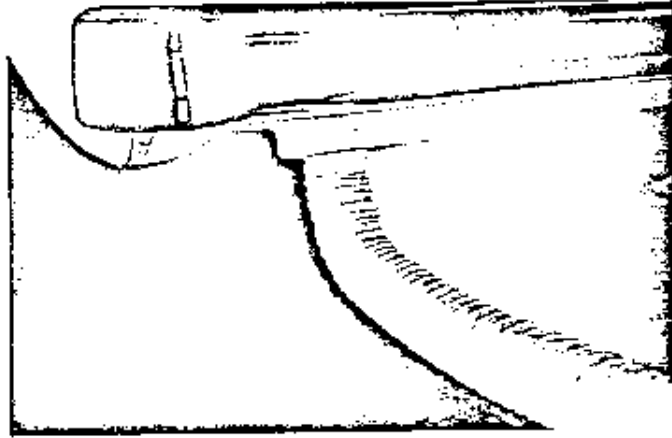

FIG. 3-1
1. Combustible gases are produced when the batteries are being charged. Be sure that there is adequate ventilation when charging indoors. Connect a hose to the battery compartment outlet (Fig. 3-1) and vent the charging fumes outdoors.